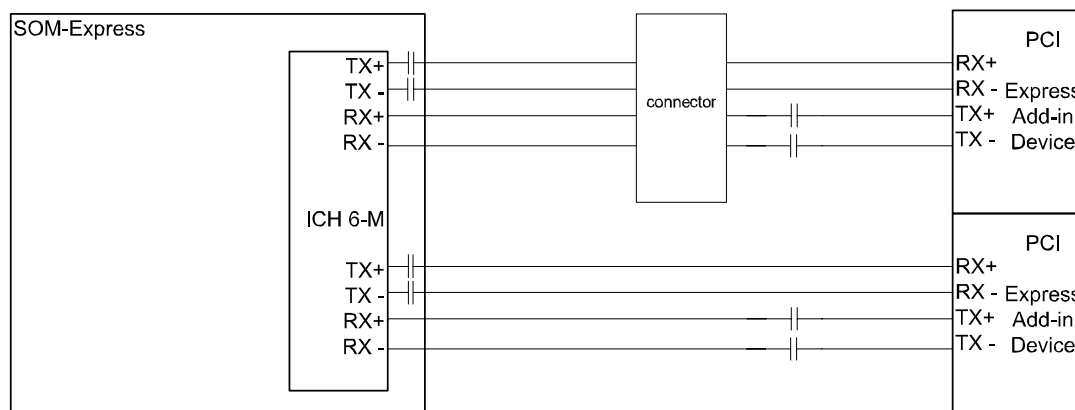

Figure 5-43 PCI Express Interconnect Example
Each PCI Express lane is AC coupled between its corresponding transmitter (TX) and receiver (RX). Figure 5-43 shows the connection for SOM-Express PCI Express signals. It is best to place AC coupling capacitors close to the transmitter (TX) of the SOM-Express board.